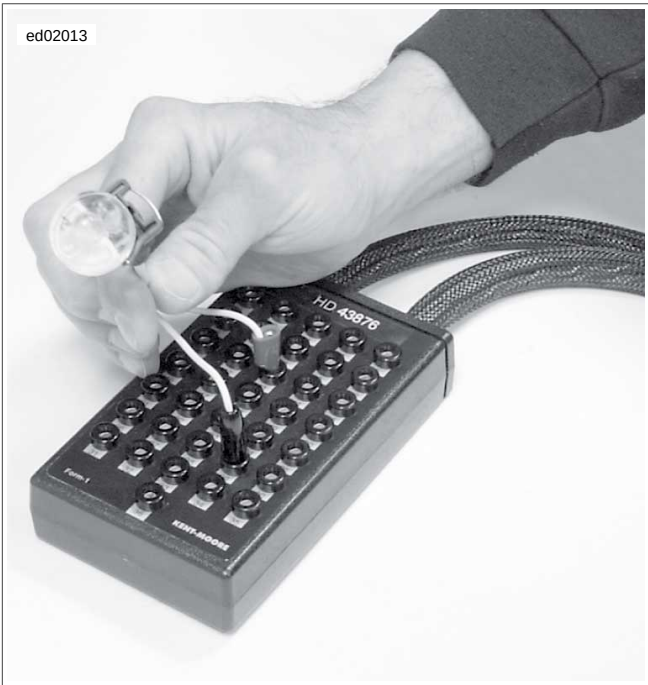

Figure 4-14. Ignition Coil Circuit Test
7. See Figure 4-14. Plug IGNITION COIL CIRCUIT TEST ADAPTER (Part No. HD-44687) and FUEL INJECTOR